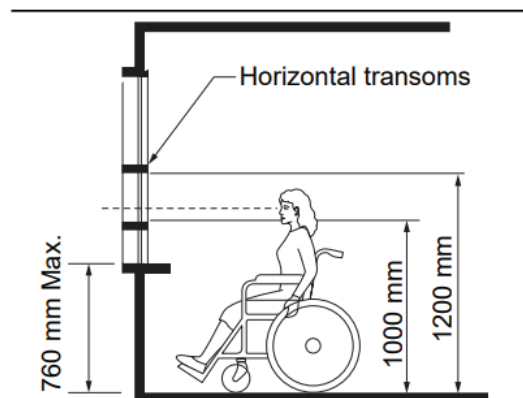

Figure 66: Window Sill Height
- Manoeuvring Space: The manoeuvring space in front of lift entrances must be at least 1500 mm by 1500 mm, except in exceptional cases, where a reduced space of 1200 mm by 1200 mm may be considered (Figure 66)